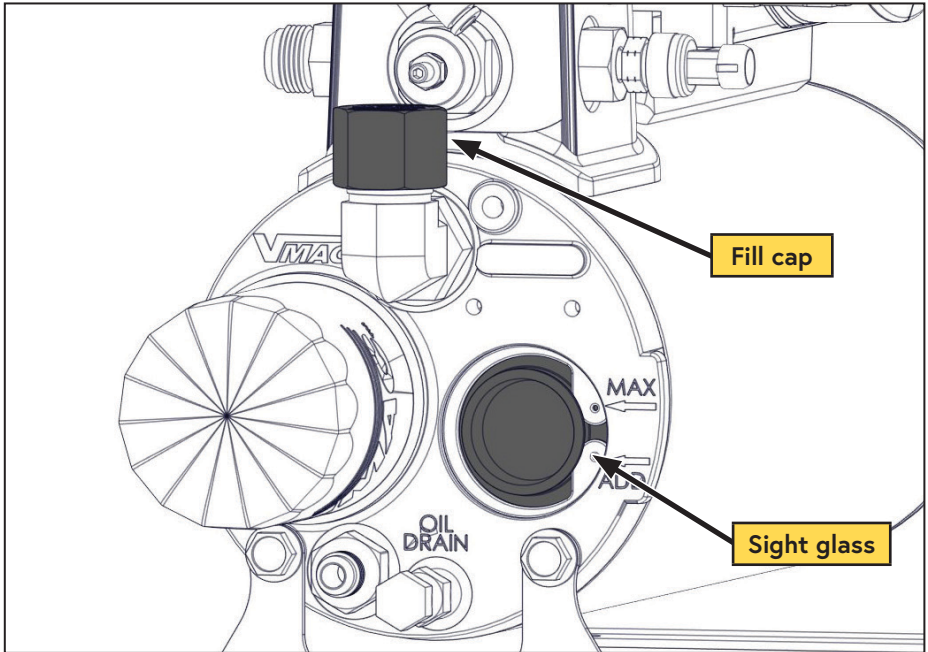

Figure 43 — Filling the WHASP Tank
- Remove the fill cap on the WHASP Tank (above the sight glass) (Figure 43).